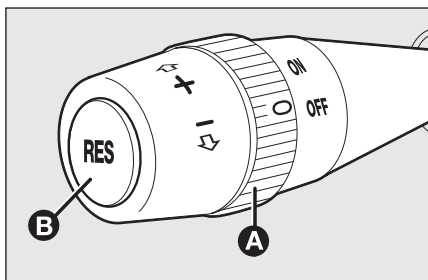

fig. 75
Turn the ring **A-fig. 75** to **ON**.
- ☐ turn ring **A-fig. 75** to **ON** and press the accelerator pedal to the required speed;
- ☐ press button **RES B-fig. 75**.
Turn ring **A**-fig. 75 to **OFF** or the ignition key to **STOP**. If the device has been disengaged, for example by pressing the brake or clutch pedal.